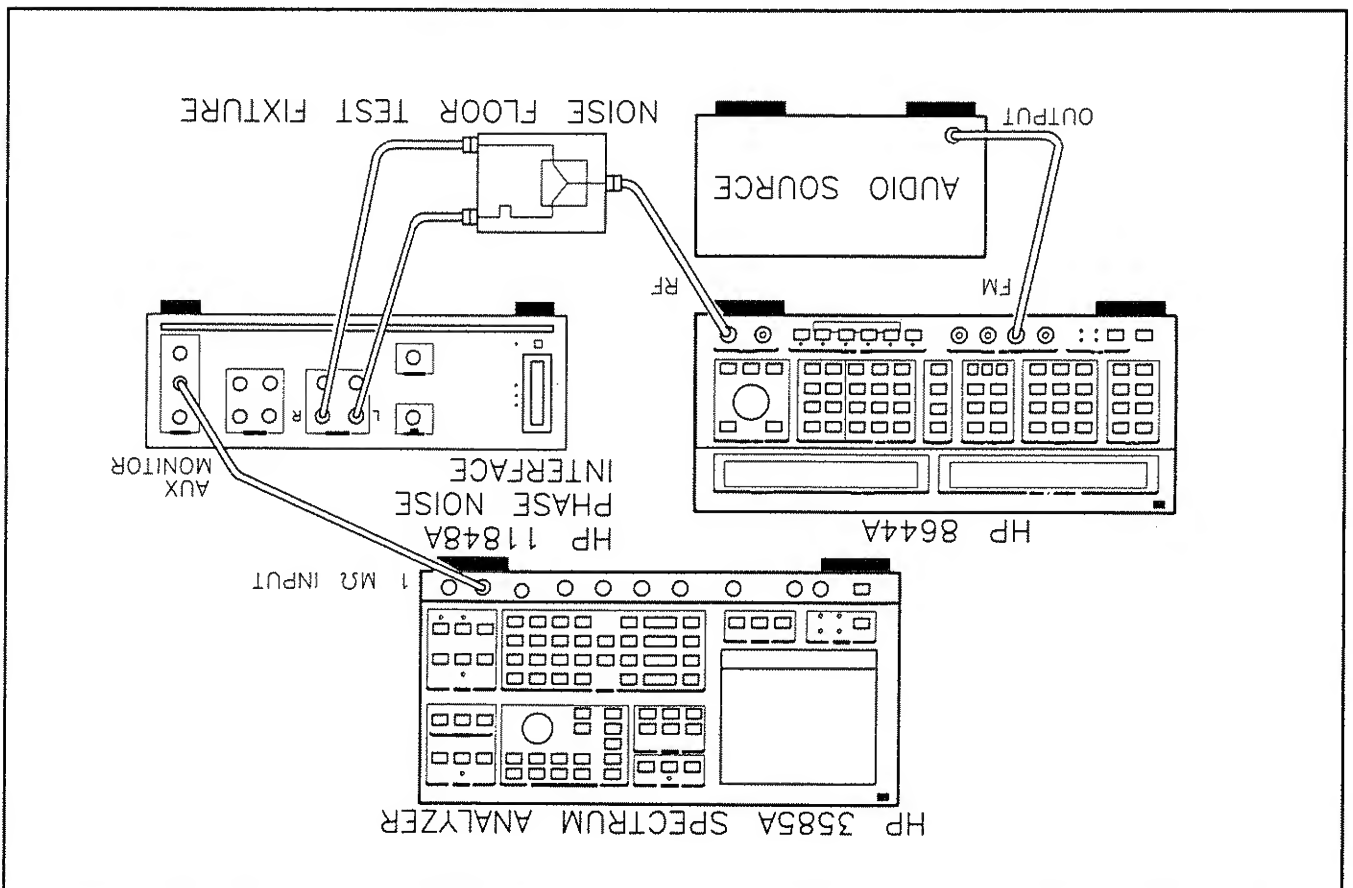

Figure 3-3. FM (High Deviation and Rates) Test Setup
2. Connect the equipment as shown in figure 3-3. Check that the SPECTRUM ANALYZER output connector on the front panel of the HP 11848A Phase Noise Interface is terminated in 50 Ω . Also, check that the delay line connectors are tight.